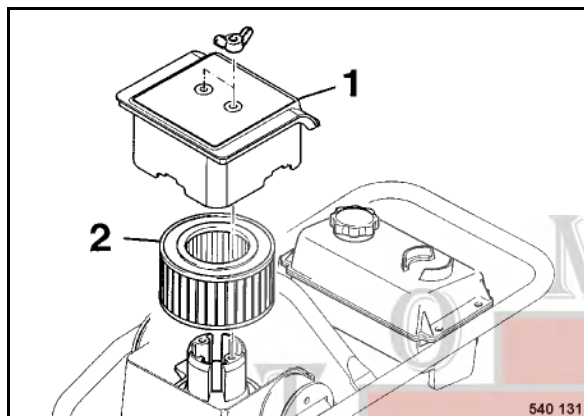

Fig. 59
- Remove cover (1) (Fig. 59), take filter cartridge (2) carefully out.